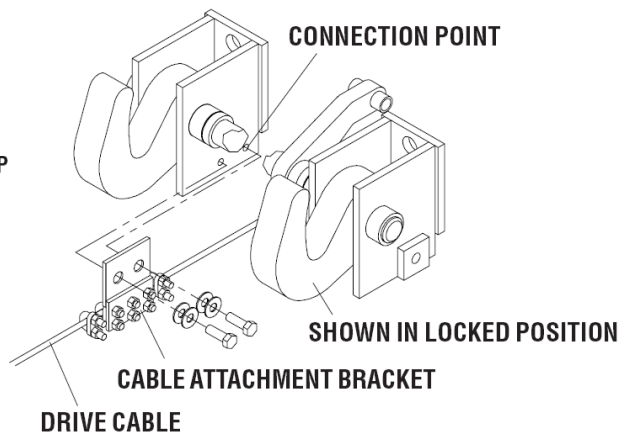

Figure 22
4) Fasten the Cable Attachment Brackets to the Gate Assemblies (Figure 22 and 23).